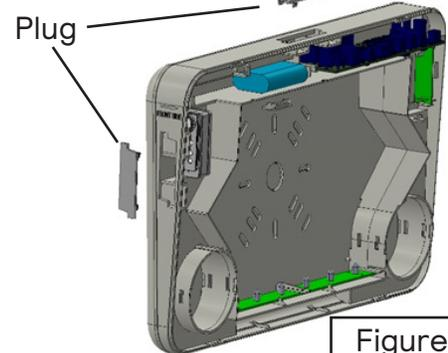

Figure 3
2. Remove plug found in top or left side of housing depending on desired mounting orientation. See Figure 3.